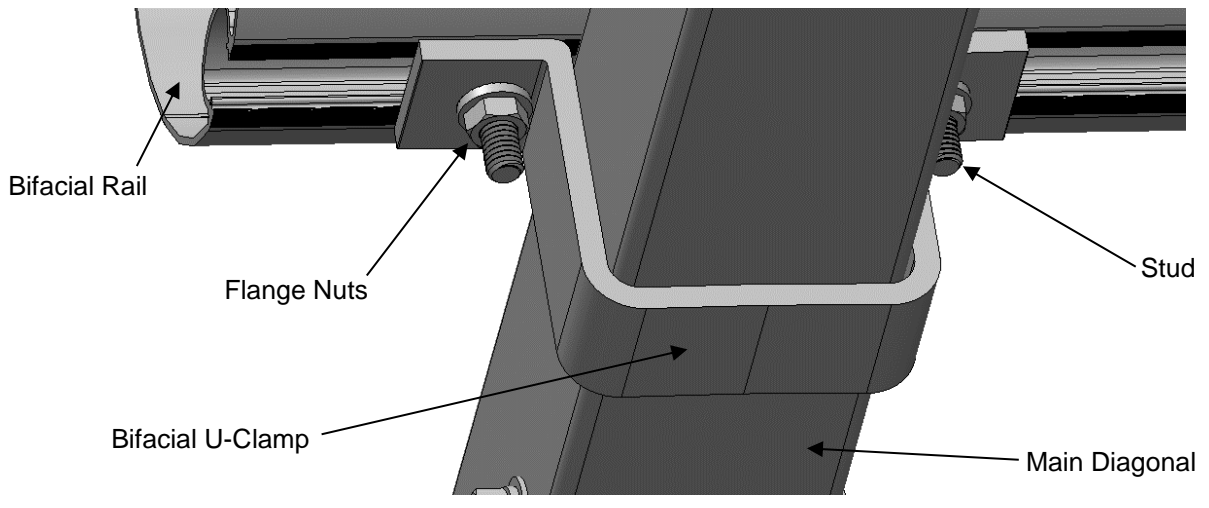

Figure 11: Bifacial U-Bracket & Rail Assembly
- c. Pick the bifacial rail up, rotate the rail & position the channel nut such that it is centred over the A-Frame Main Diagonal. Place the U-Bracket under the A-Frame Main Diagonal and on to the channel nut studs (Figure 11).